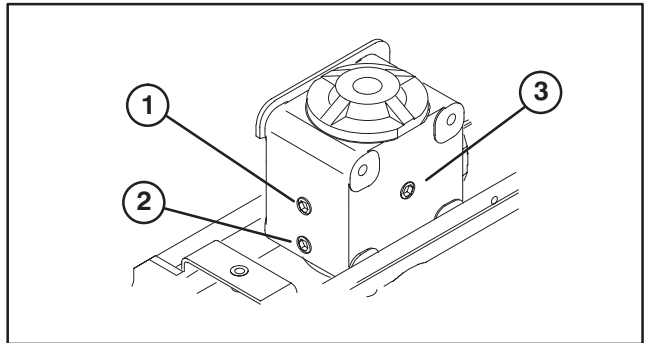

Figure 17
2. Position machine and cutting unit on a level surface and lower cutting unit. Remove check plug from side of gear box (Fig. 17) and make sure lubricant is up to bottom of hole. If level of lubricant is low, remove fill plug at end of gear case and add SAE 80–90 wt. gear lube until level is up to bottom of hole in side.